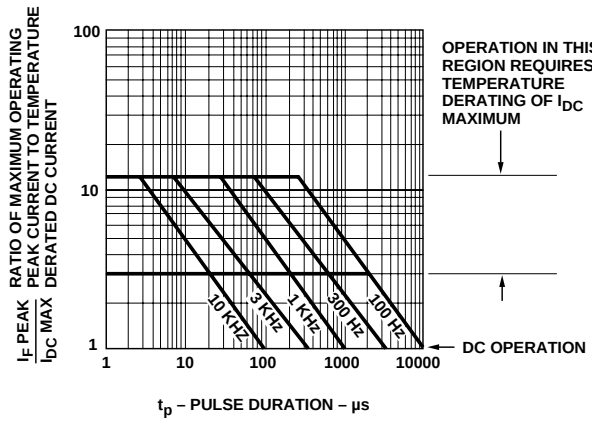

Figure 6. Allowable Peak Current vs. Pulse Duration – Green.
7. See Figure 6 to establish pulsed conditions.